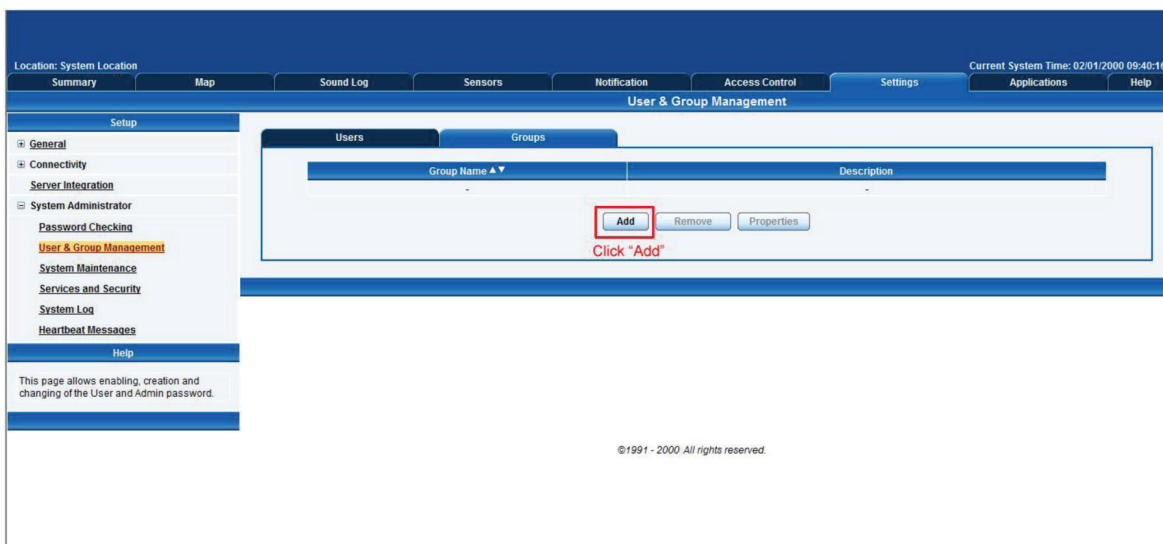

Figure 3-14. Groups page.
3. Click on the "Go to Group Setup" link that will take you to the Groups page shown in Figure 3-14.
4. Click on the “Add” button to add your groups as shown in Figure 3-14.